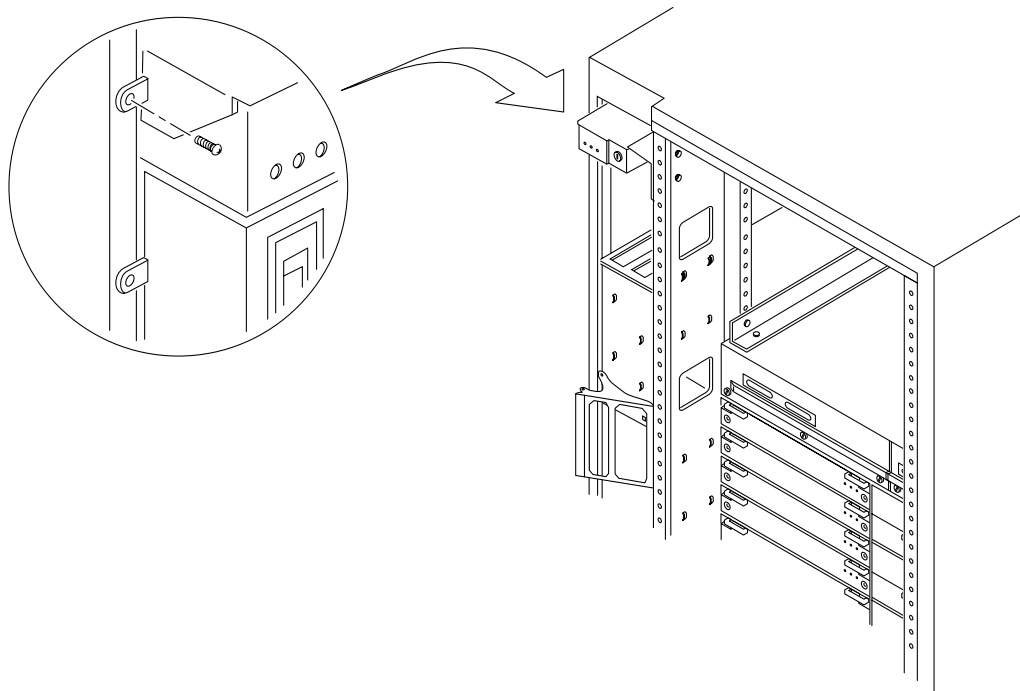

FIGURE E-9 Removing the Screw from the Left Pillar
- 13. Remove the screw on the left side that attaches the key switch assembly to the cabinet pillar (FIGURE E-9).**
- 3. Replace the screw on the left side that attaches the key switch assembly to the cabinet pillar (FIGURE E-9).**